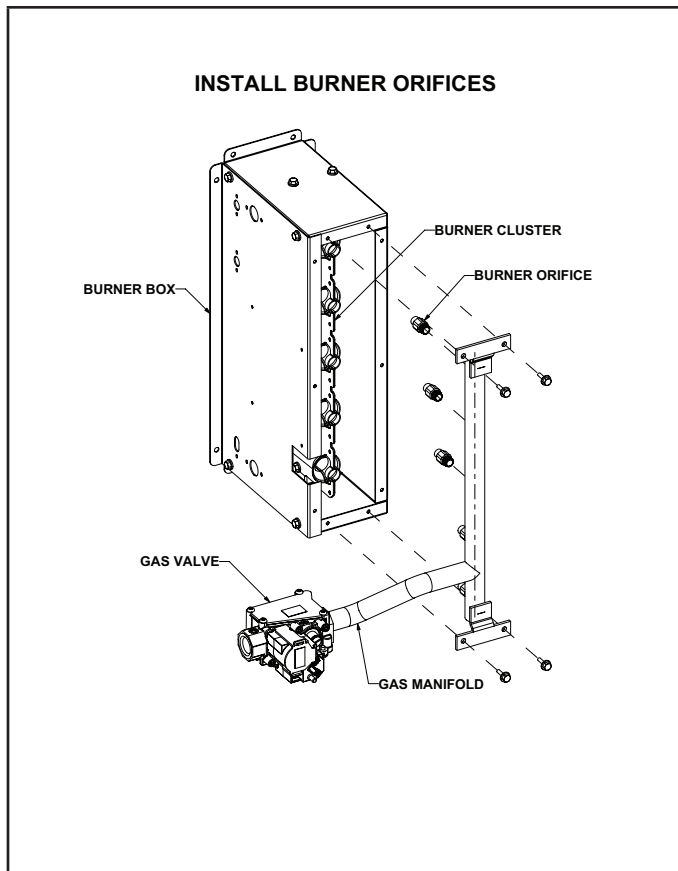

Figure 1
The natural to regulated LP/propane gas change-over and high altitude kit is for use on UHRS/LF25-30/45/60/75/90/105 compact unit heaters equipped with the White Rodgers 36G series gas valve. See figure 1 for kit application.
- 5 - Remove four screws on the gas manifold assembly which hold the assembly to the burner box. See figure 1.